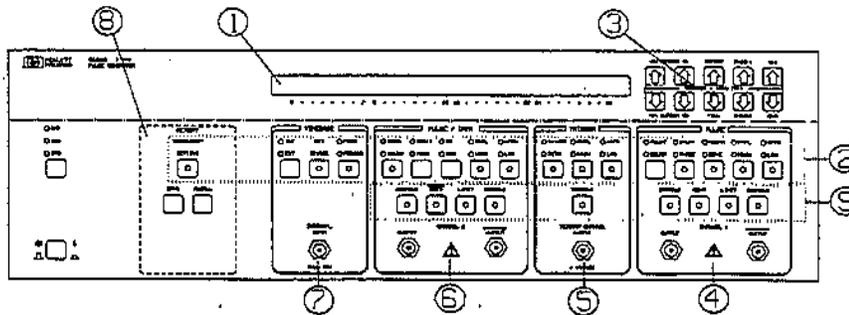

Figure 1-1. HP 8133A Frontpanel overview
- Mode keys** Mode keys toggle between different operating modes. They are located in the upper row of keys, see Figure 1-1. The LEDs above the key indicate which mode is selected.
- Parameter keys** Parameter keys activate a parameter on the display. They are located in the upper row of keys, see Figure 1-1. Press once to activate the selected parameter indicated by the LEDs above the key. Press again to select and activate the alternative parameter. The LED in the key indicates that the parameter is active in the display.
- Control keys** Control keys toggle an output mode on or off. They are located in the lower row of keys, see Figure 1-1. The LED in the key is lit when the mode is on.
- indicated by LEDs in and above a **mode/parameter key** (See Figure 1-1).